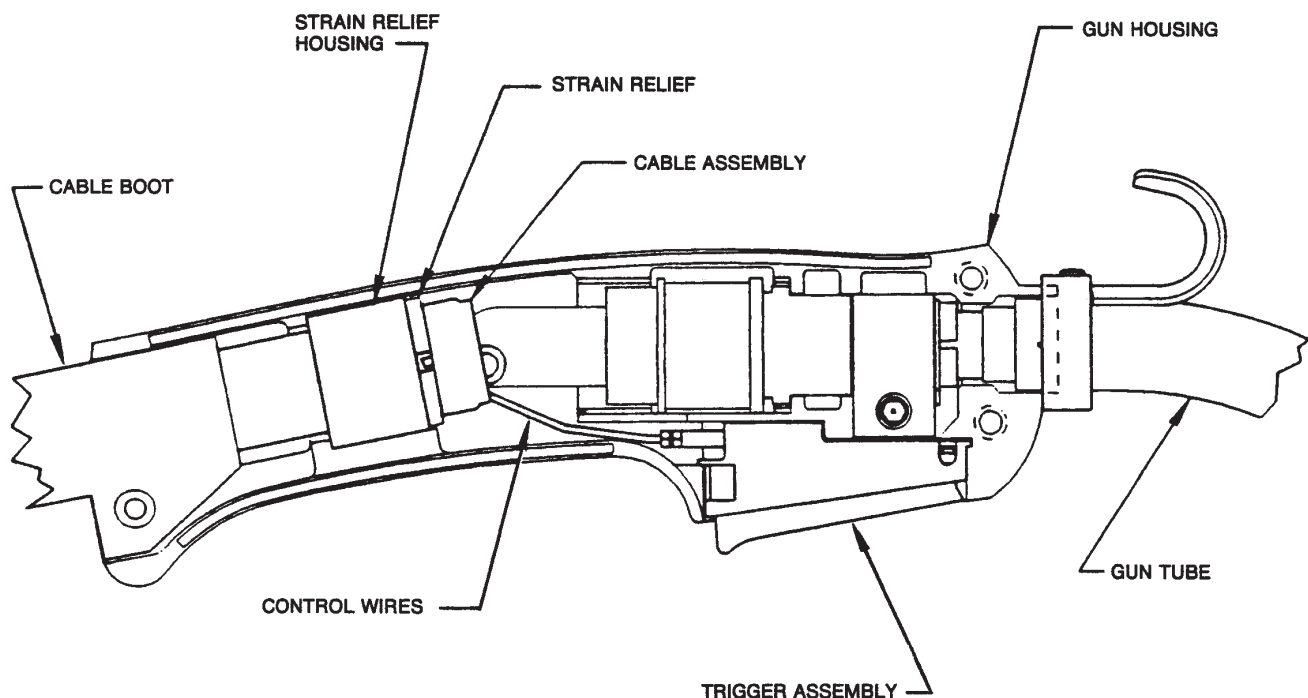

FIGURE 4
- j. Assemble cable in left side of gun handle. Assemble trigger into the proper handle cavity. Assemble right side of gun handle and tighten the three screws that hold the handle together. Refer to Figure 4.